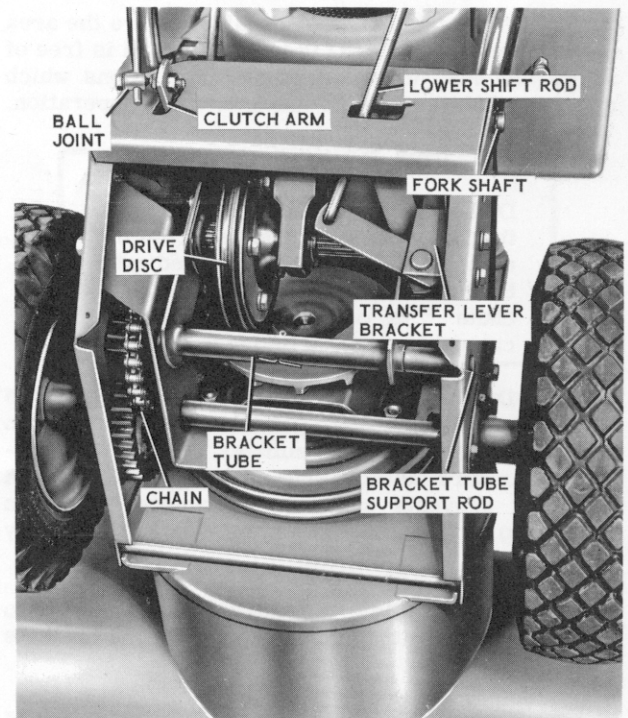

Figure 4
f. Remove the hex nut securing the ball joint to the clutch arm and remove the ball joint from the arm. (Fig. 4).
g. Remove the two cap screws and lockwashers securing the transfer lever bracket to the frame. (Fig. 4).
i. Remove the connector link from the chain and remove the chain (Fig. 4).
j. Remove the quick pin from the left side of the fork shaft and pull the fork shaft out of the right side of the frame (Fig. 4).
k. Remove the cotter pin from the center of the bracket tube and remove the bracket tube support rod through the right side of the frame. (Fig. 4).